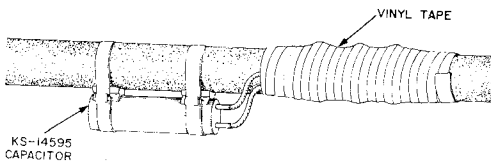

Fig. 6—Vinyl Tape Placed
- (f) Apply one half-lapped layer of vinyl tape over the insulating joint covering the soldered connections, the capacitor leads, and the sealing clamps as shown in Fig. 6.